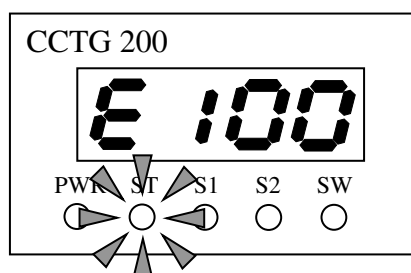

Fig. 11. Stopping Measurement (E.g.)
- (1) In cases where alarm occur such as when the pressure exceeds the measuring range or when an error occurs in an electrode, the ST indicator flashes red, an error code is displayed in the seven segment indicator, and pressure measurement stops. (Fig. 11. Stopping Measurement (E.g.))